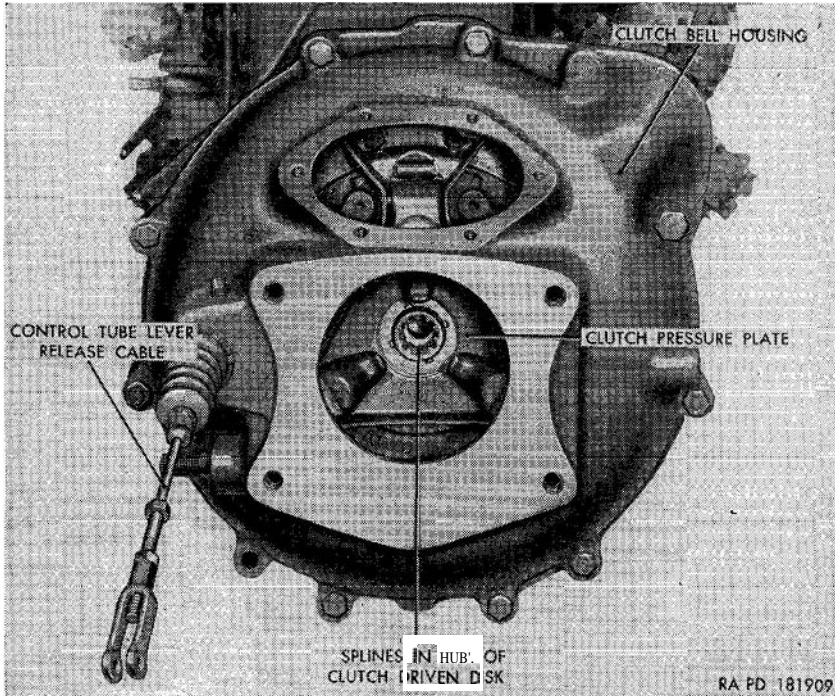

Figure 125. Clutch bell housing—rear view--transmission removed.
*a. Description.* The clutch, located between the engine and transmission, is a single disk, dry-type, composed of two major units, the clutch pressure plate (fig. 125) and the driven disk. The controlled pressure of the driven disk against the engine flywheel provides a
d. Aline the input shaft splines with the clutch driven disk (fig. 125) hub splines and insert the input shaft through the disk hub until it seats in the engine flywheel clutch pilot bearing. Secure the